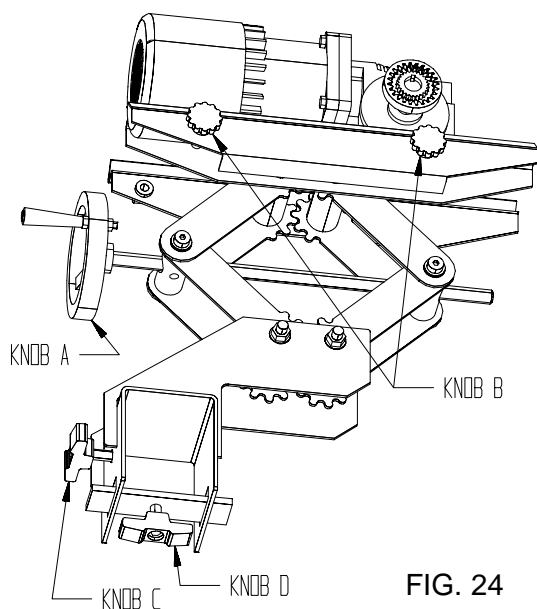

FIG. 24
Before positioning the spin drive unit let us familiarize ourselves with the available adjustments and coupler/drive assemblies. See FIG. 24.
**SQUARE DRIVE ADAPTER:** This is inserted into the drive coupler adapter and should be able to be moved approximately 2" [51 mm]. It will be necessary to move this when attaching reel to spin drive unit. It is then inserted into any 1/2" square drive socket or adapter. This square shaft has a groove machined into it on the opposite end of the snap ring. This groove is there to advise that you have reached the maximum extension of the square drive shaft. If you cannot connect the reel without extending past this groove, then the spin unit must be repositioned on the tooling bar (knobs C & D). See FIG. 24.